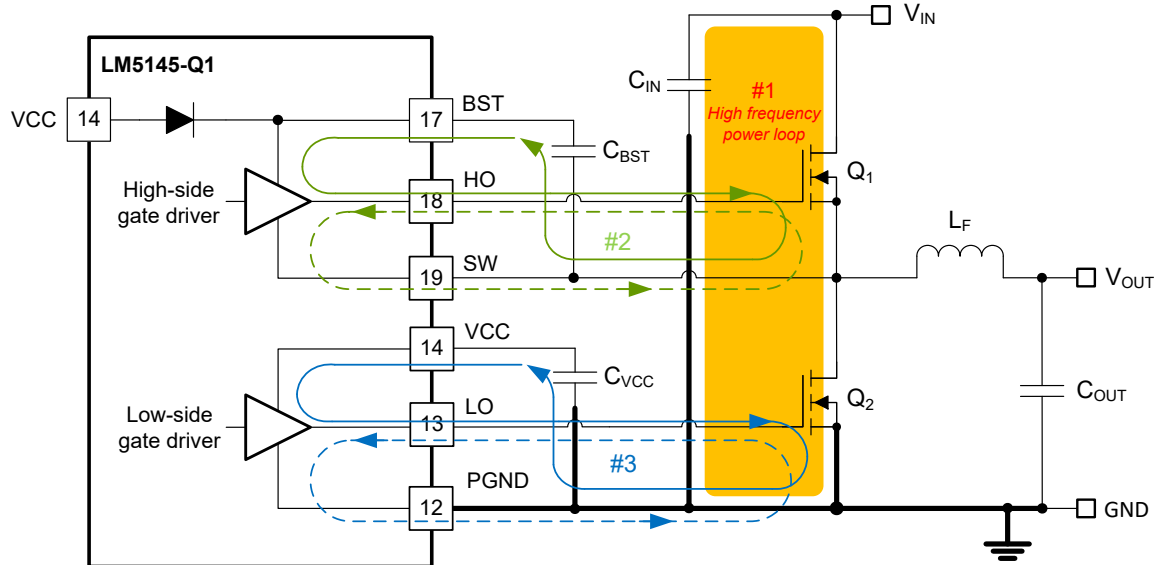

Figure 11-1. DC-DC Regulator Ground System With Power Stage and Gate Drive Circuit Switching Loops
Proper PCB design and layout is important in a high-current, fast-switching circuits (with high current and voltage slew rates) to assure appropriate device operation and design robustness. As expected, certain issues must be considered before designing a PCB layout using the LM5145-Q1. The high-frequency power loop of the buck converter power stage is denoted by #1 in the shaded area of Figure 11-1. The topological architecture of a buck converter means that particularly high di/dt current flows in the components of loop 1, and it becomes mandatory to reduce the parasitic inductance of this loop by minimizing its effective loop area. Also important is the gate drive loops of the low-side and high-side MOSFETs, denoted by 2 and 3, respectively, in Figure 11-1.
- Loop #1: The most important loop to minimize the area of is the path from the input capacitor or capacitors through the high- and low-side MOSFETs, and back to the capacitor or capacitors through the ground connection. Connect the input capacitor or capacitors negative terminal close to the source of the low-side MOSFET (at ground). Similarly, connect the input capacitor or capacitors positive terminal close to the drain of the high-side MOSFET (at VIN). Refer to loop #1 of Figure 11-1.
- The SW pin connects to the switch node of the power conversion stage and acts as the return path for the high-side gate driver. The parasitic inductance inherent to loop #1 in Figure 11-1 and the output capacitance (C_{OSS}) of both power MOSFETs form a resonant circuit that induces high frequency (> 100 MHz) ringing on the SW node. The voltage peak of this ringing, if not controlled, can be significantly higher than the input voltage. Ensure that the peak ringing amplitude does not exceed the absolute maximum rating limit for the SW pin. In many cases, a series resistor and capacitor snubber network connected from the SW node to GND damps the ringing and decreases the peak amplitude. Provide provisions for snubber network components in the PCB layout. If testing reveals that the ringing amplitude at the SW pin is excessive, then include snubber components as needed.
- Loop 2: high-side MOSFET, Q_1 . During the high-side MOSFET turnon, high current flows from the bootstrap (boot) capacitor through the gate driver and high-side MOSFET, and back to the negative terminal of the boot capacitor through the SW connection. Conversely, to turn off the high-side MOSFET, high current flows from the gate of the high-side MOSFET through the gate driver and SW, and back to the source of the high-side MOSFET through the SW trace. Refer to loop #2 of Figure 11-1.
- Loop 3: low-side MOSFET, Q_2 . During the low-side MOSFET turn-on, high current flows from the VCC decoupling capacitor through the gate driver and low-side MOSFET, and back to the negative terminal of the capacitor through ground. Conversely, to turn off the low-side MOSFET, high current flows from the gate of the low-side MOSFET through the gate driver and GND, and back to the source of the low-side MOSFET through ground. Refer to loop #3 of Figure 11-1.